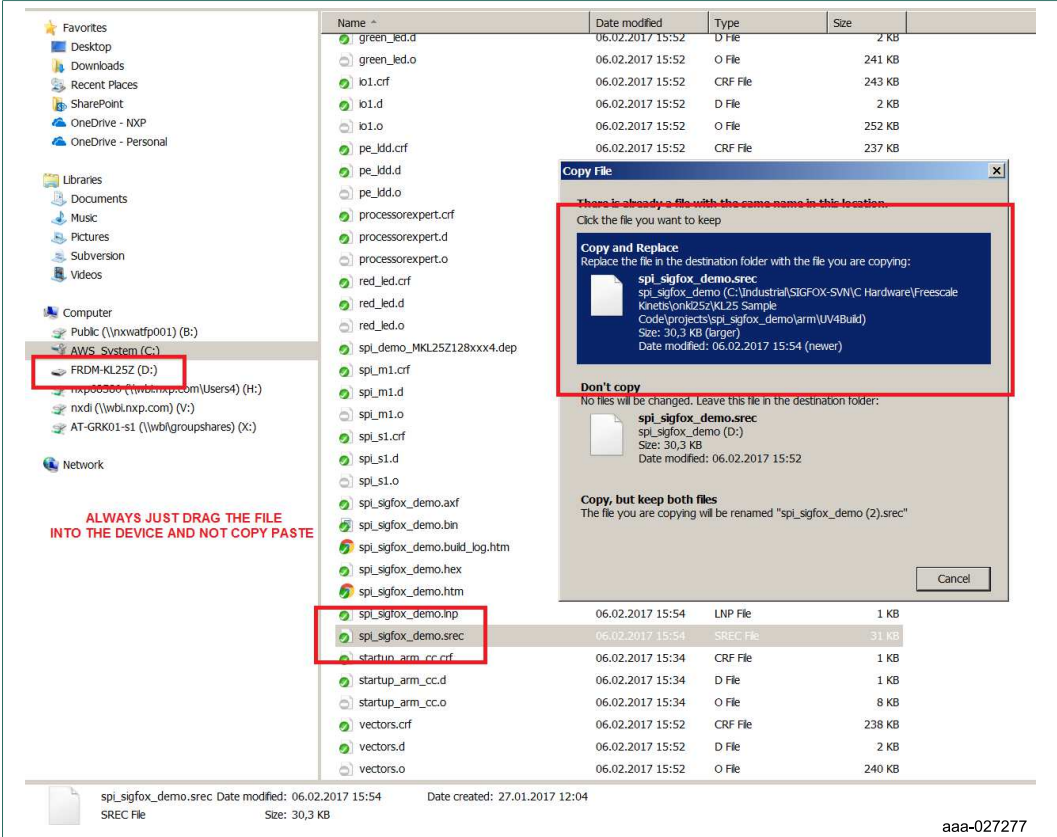

Figure 15. Flashing the firmware on KL43Z
3. If the device has an updated bootloader installed in it already, it will be shown detected as a removable device on windows PC labeled as FRDM-KL43Z as shown in Figure 15. If the bootloader is not installed, follow steps given in Quick Start Guide for FRDM-KL43Z ([www.nxp.com/FRDM-KL43Z](http://www.nxp.com/FRDM-KL43Z)) to update bootloader.
6. Install and open a terminal software like Tera Term with the settings as shown in Figure 15. Use the OpenSDA com port number, which you can get from the Windows Device Manager program. Press and hold (or right-click) the **Start** button, then select **Device Manager** from the context menu. In the Device Manager, click on **Ports (COM & LPT)**. Under OpenSDA – CDC Serial Port, note the COM port number. You can set these settings on the **Setup** menu of the terminal program.
7. After you Press the reset button on the KL43Z, a menu as shown in Figure 15 will appear, indicating that the KL43Z board is properly set up.